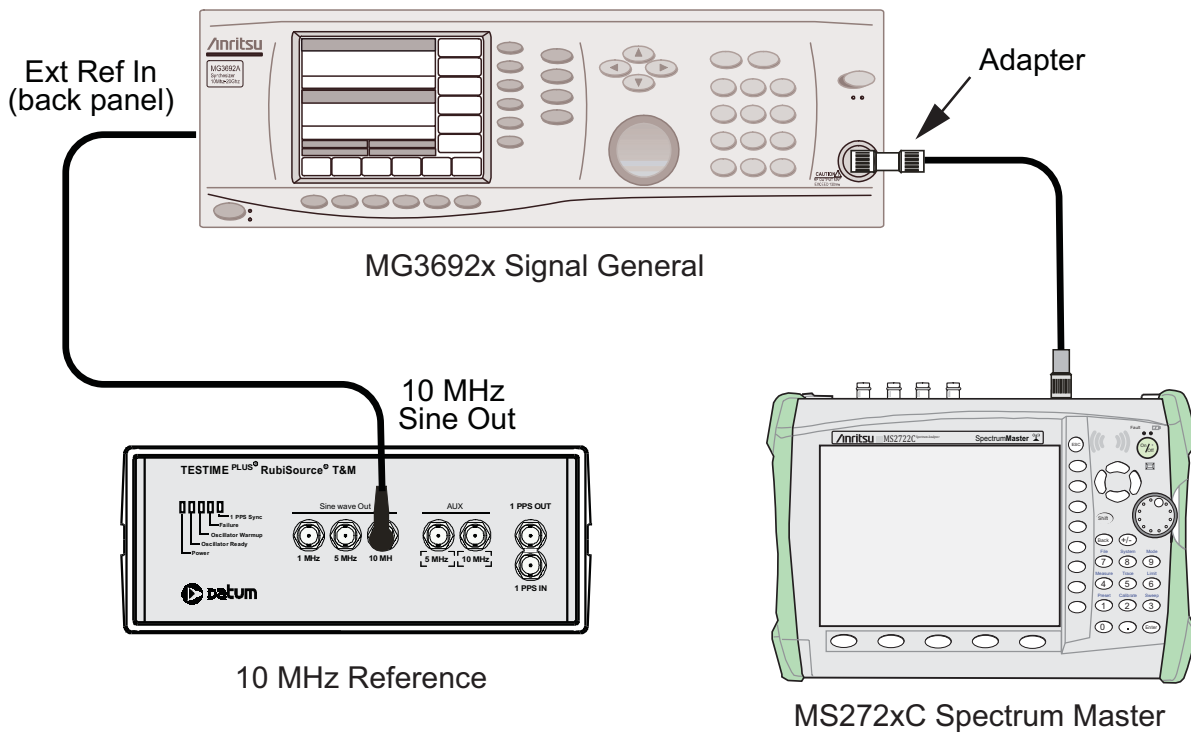

Figure 3-1. Frequency Accuracy Verification by Synthesized Signal Generator
2. Connect the output of the Synthesized Signal Generator to the Spectrum Analyzer RF In of the MS272xC, as shown in Figure 3-1.